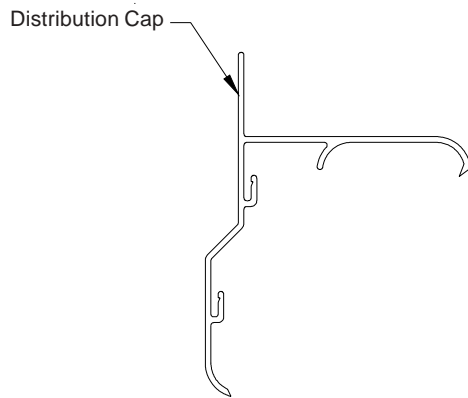

Figure 13A
- 16) Attach distribution cap to left end of framed opening using #14 x 1 1/2" Lag screws and bushings. **DO NOT** tighten Lag screw against distribution cap. Distribution cap should be able to slide back and forth along slot to allow for contraction and expansion. Be sure to hold distribution cap tight against framing and that the Lag screws go in square so as not to tip cap upward. **See Figures 13A, 13B and 13C.** Repeat Step 15, leaving a 1/4" gap between sections, until you have installed all distribution caps.